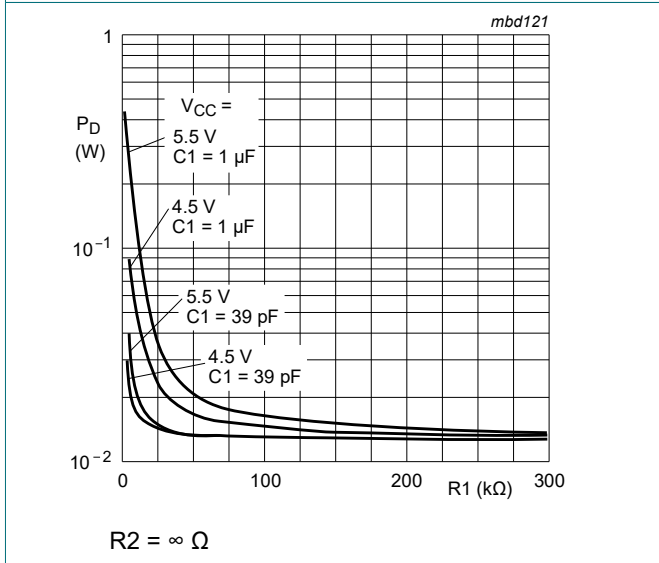
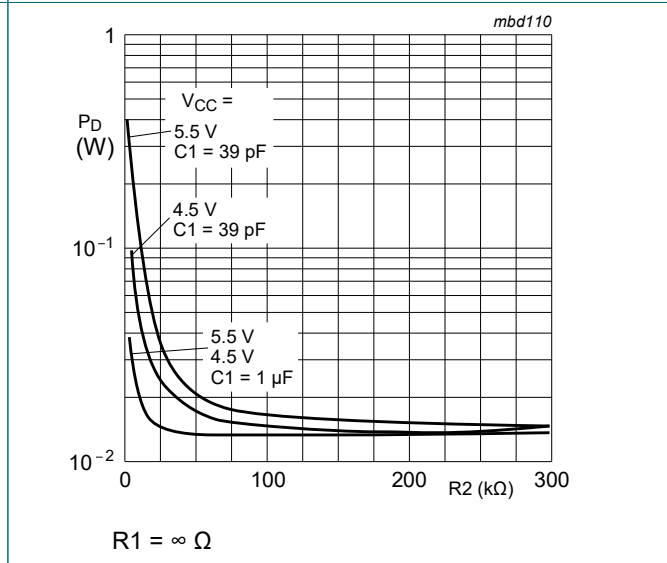
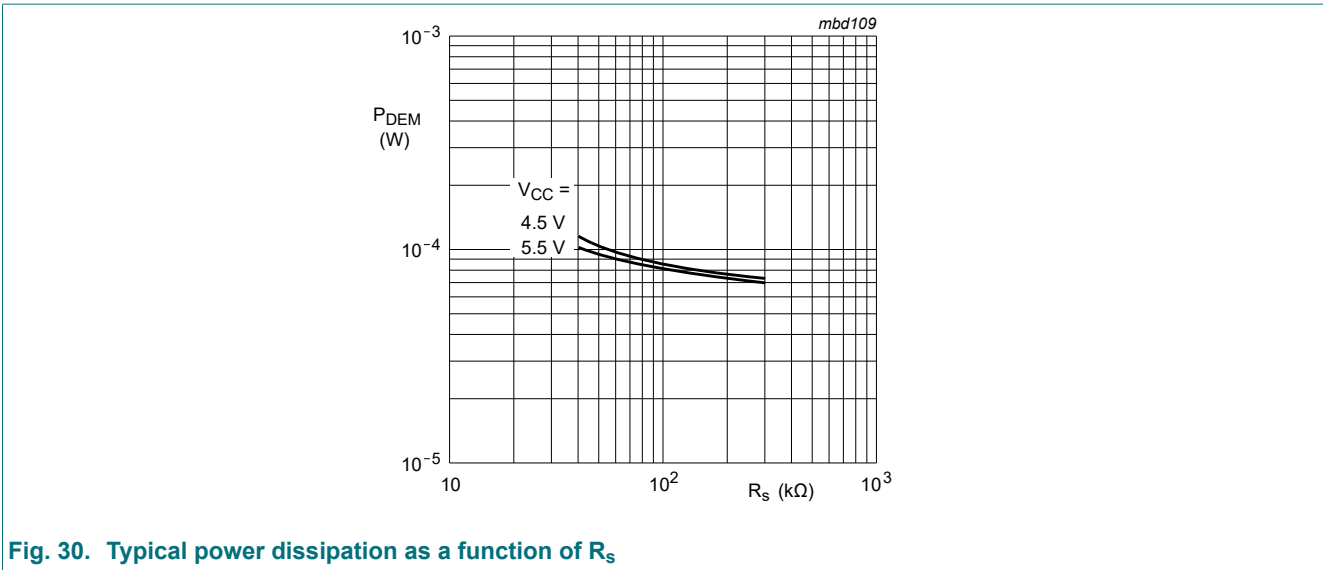

Fig. 28. Power dissipation as a function of R_1
Fig. 29. Power dissipation as a function of R_2
Fig. 30. Typical power dissipation as a function of R_s
- [6] Applies to the phase comparator section only (pin INH = HIGH). For power dissipation of the VCO and demodulator sections, see Fig. 28, Fig. 29 and Fig. 30.